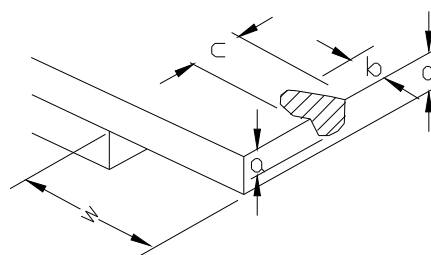

图2
3.8.2.2 Glass defect at reverse side or non ITO layer ledge (figure2)